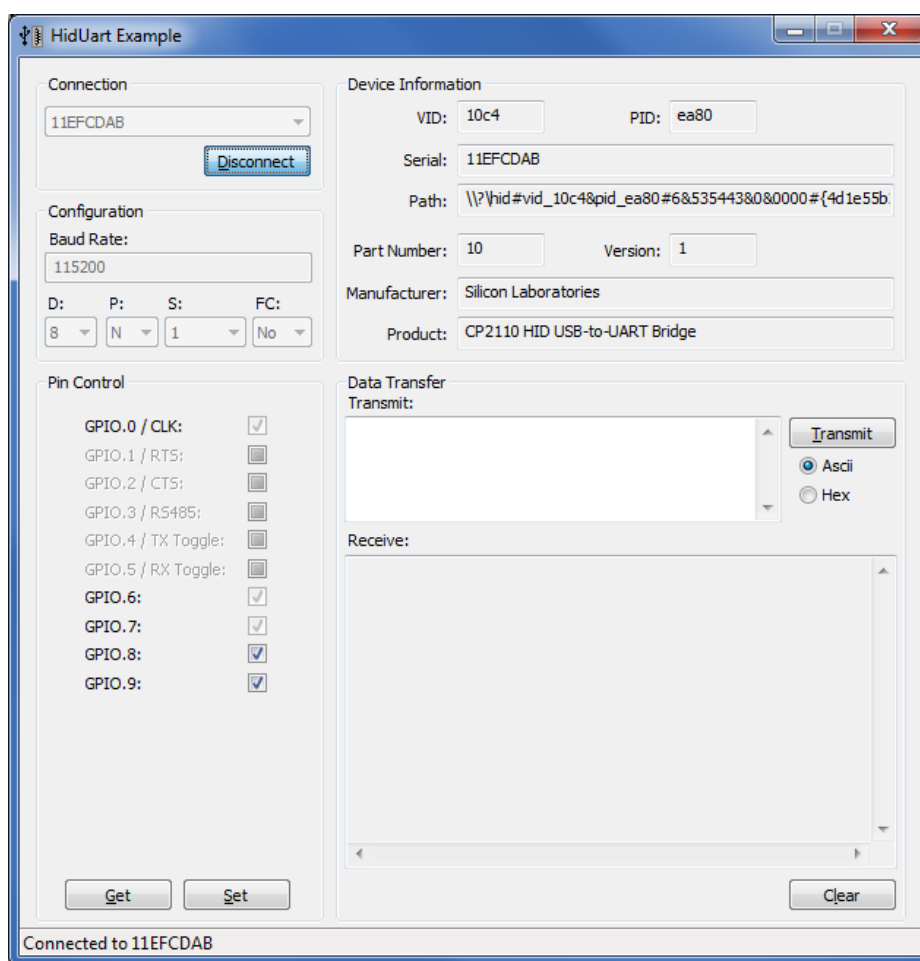

Figure 2. HIDUart Example Application after Connection
7. The HIDUart example automatically recognizes how the GPIO pins are configured and enables/disables the ability to change and read the pin. The default configuration is shown in Figure 2. Use the Get and Set buttons to read and write the GPIO pins' latch values. For GPIO pins that are configured as outputs, setting the pin to logic low '0' will turn on the corresponding LED on the CP2110 evaluation board.